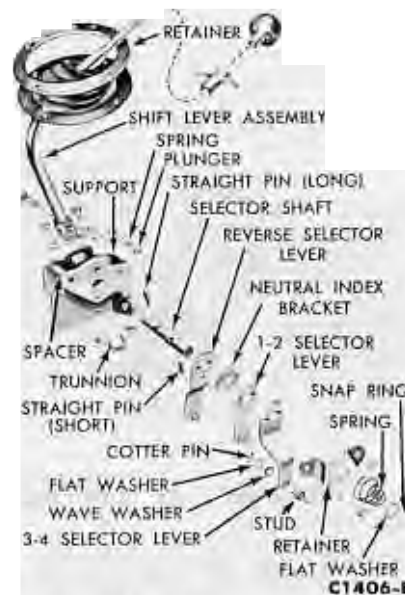

FIG. 11—Gear Shift Lever Reassembled
end of the selector shaft with pointed snap ring pliers (Fig. 11).
10. Install the levers and the neutral index bracket on the shaft as shown in Fig. 11.